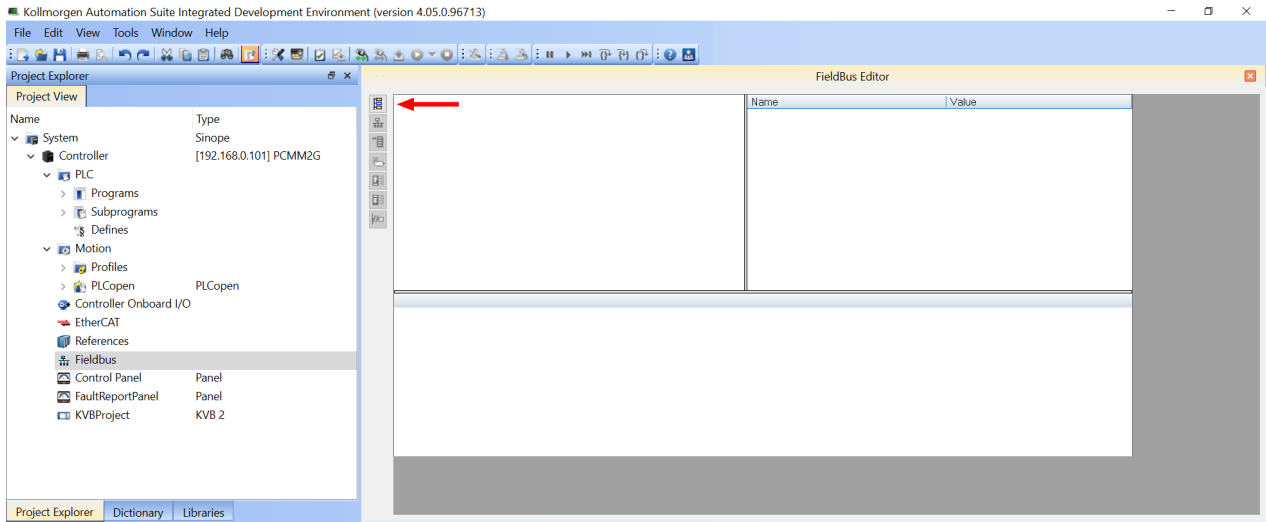

Figure 2-1: Insert Network (Configuration) button
4. On the vertical toolbar, click the **Insert Network (Configuration)** button (). (Figure 2-1)